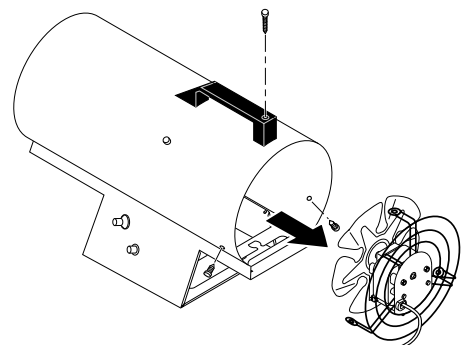

**Figure 10 - Replacing Motor and Fan Guard Into Heater**
10. Place motor and fan guard into rear of heater shell. Make sure power cord is properly located (See Figure 10).